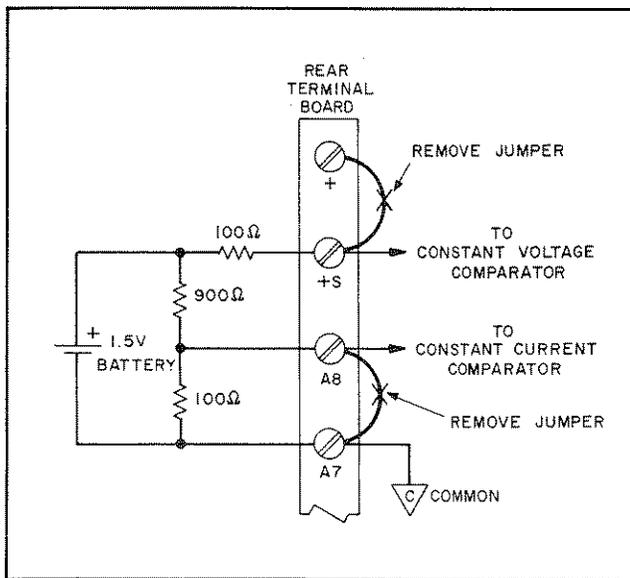

Figure 5-9. Open Loop Test Setup, Amplifier Circuit
- Connect external battery and resistors as shown in Figure 5-9. A "D"-size flashlight cell is adequate for this test.
- Before turning on supply, connect dc voltmeter across output of A1U1 between TP9 and terminal A7 (C). Ensure that jumper A1R149 is removed.
- Connect test setup of Figure 5-9.
- Use test setup of Figure 5-9. Ensure that circuit is open loop (jumper A1R149 removed).